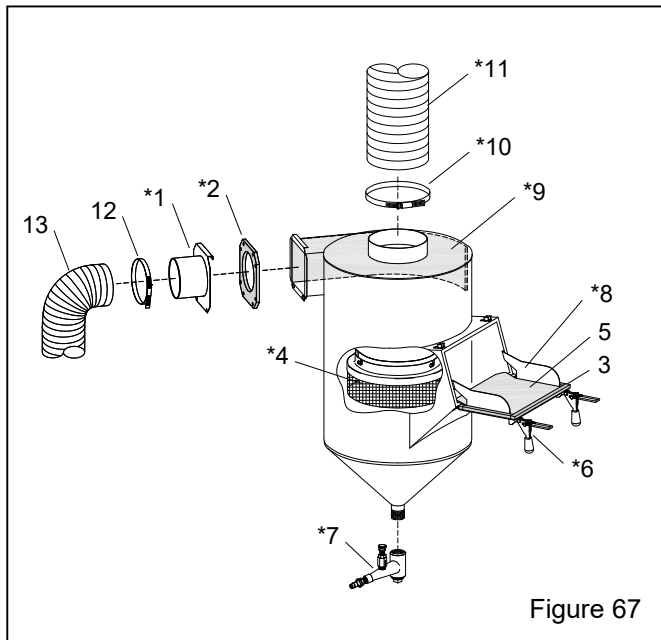

Figure 67
10.10 Reclaimer, 300 CFM – Figure 67